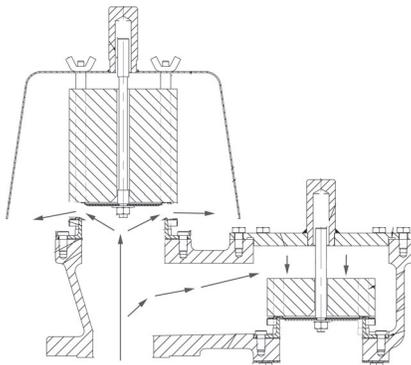

Figure 1 - Pressure Relief
**Figure 1** illustrates the operation of the Pressure Relief Vent under overpressure conditions. As the tank pressure increases as a result of product being pumped into the tank and/or because of thermal expansion of the product and vapors, the pressure pallet remains closed until the set pressure of the vent is reached. When the tank pressure reaches the pressure setting of the vent, the pressure pallet lifts allowing the tank pressure to bleed off.
**The vent must be installed in a vertical position as shown in Figure 1. The tank nozzle on which the vent is mounted should have the same nominal diameter as the venting device. It is recommended that the tank nozzle flange face be within 1 degree of horizontal for best performance of the venting device.**